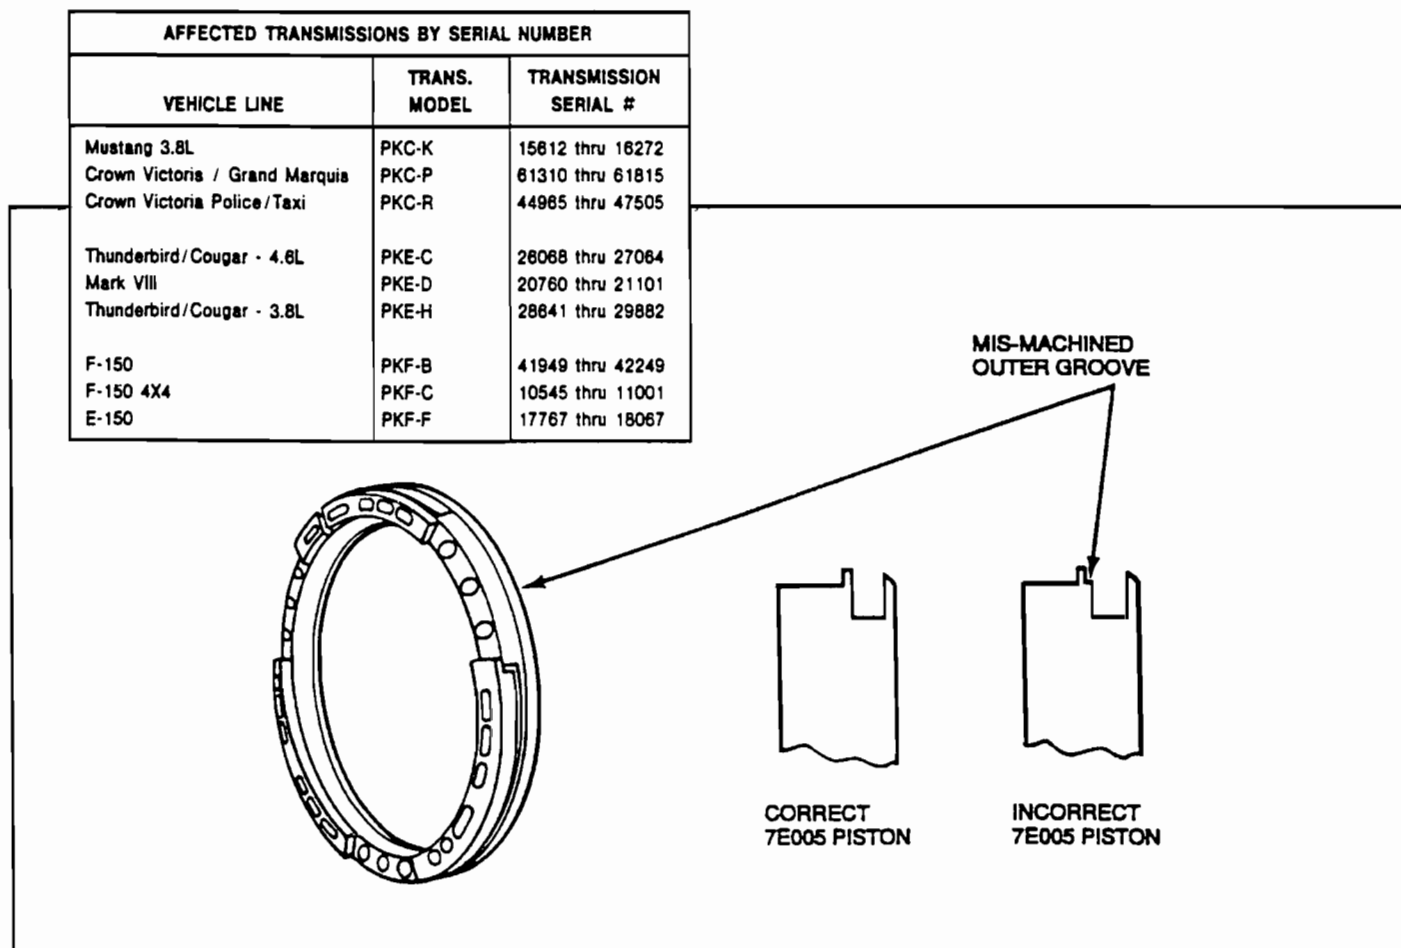

Figure 1
**Correction:** Replace the intermediate piston if improperly machined. Check figure 1, which shows the the machining error. The new piston part number is F2AZ-7E005-A.